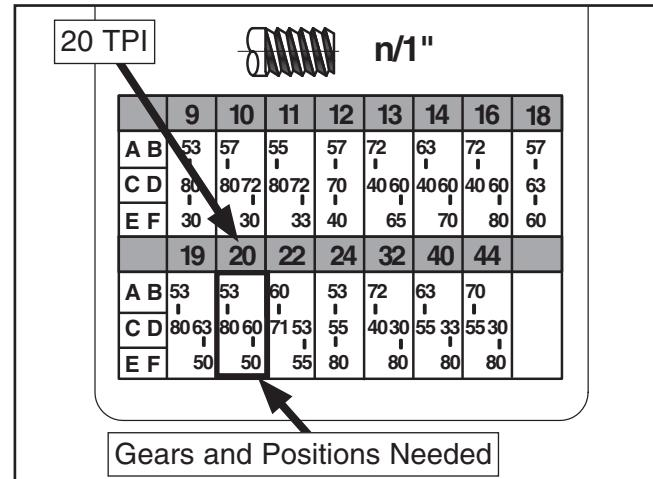

Figure 74. Gear positions for 20 TPI on thread chart.
2. Locate 20 TPI on thread chart shown in **Figure 74**.